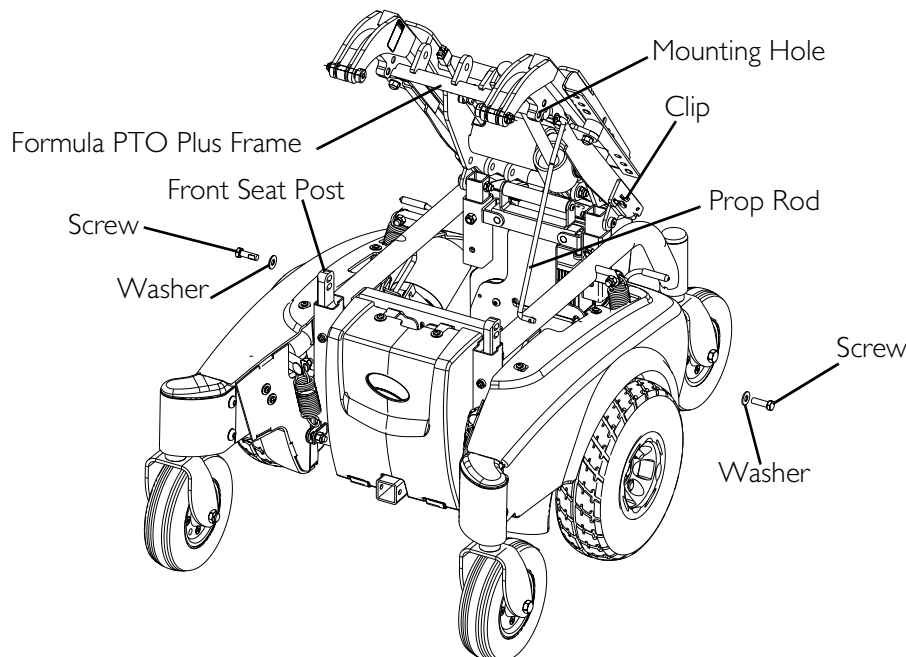

FIGURE 14.6 Tilting the Seat Assembly
NOTE: For this procedure, refer to FIGURE 14.6.
8. Remove prop rod from the clip located on the Formula PTO Plus frame and engage the prop rod end into the front seat post as shown in FIGURE 14.6.